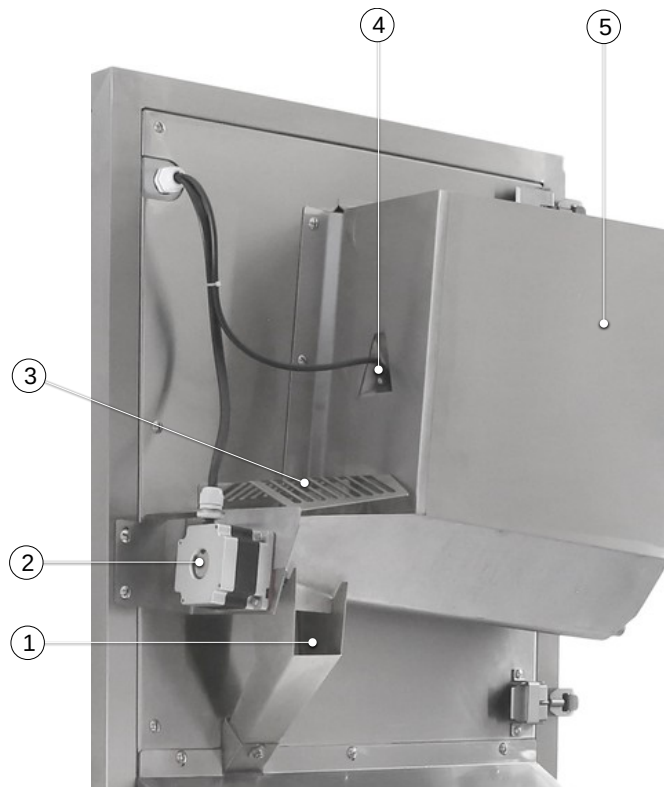

Figure 4: Corn bin with feeder
- Burn hazard! Hot air may come out from the machine through the corn supply tube (pos.1 Fig.4). DO NOT touch or reach into the corn supply tube. KEEP OFF this area.
Corn bin with feeder is shown on Fig.4.